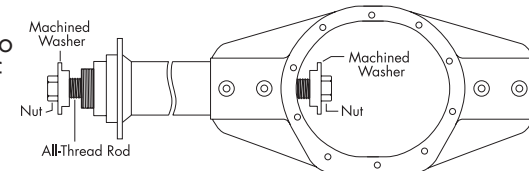

Figure 2
A simple tube installation tool (figure 2) can be made from a 48" length of 3/4" or 1" All-Thread rod, two nuts and two machined washers. Machine the washers, one for inside the housing and one for the end of the tube. These washers should be approximately 1" thick with an under cut to locate and center in the housing and tube.
2. Amount of camber (figure 2)